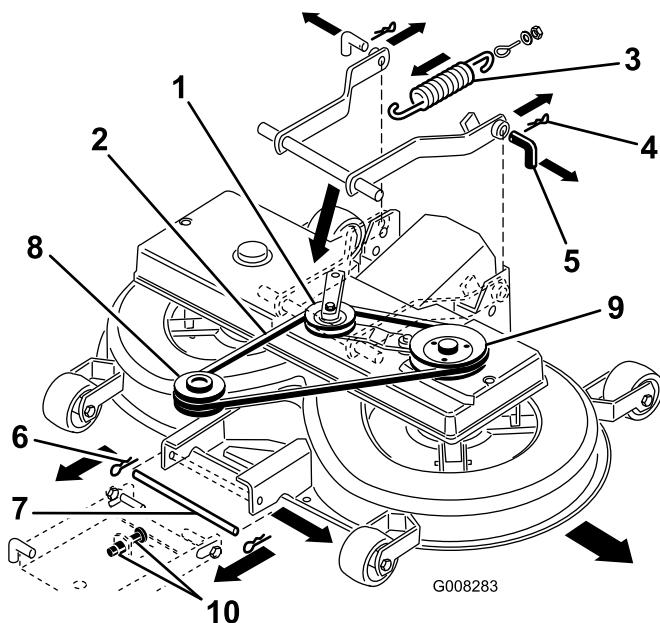

Figure 39
2. Remove the V-belt pulley and the idler arm assembly (Figure 39).
8. Pull the idler arm assembly in and remove the V-belt from the pulley (Figure 39).
9. Disconnect the spring from the engagement lever (Figure 39).
11. Remove the hairpin clips from the 2 rear pins and remove the pins (Figure 39).
12. Remove the hairpin clip from the front pin and remove the pin (Figure 39).
13. Remove the V-belt from the engine pulley (Figure 39).
7. Move the lower pin of the front adjustment suspension into the bottom position of the slotted holes by adjusting the 2 nuts (M12) on the front suspension (Figure 39).